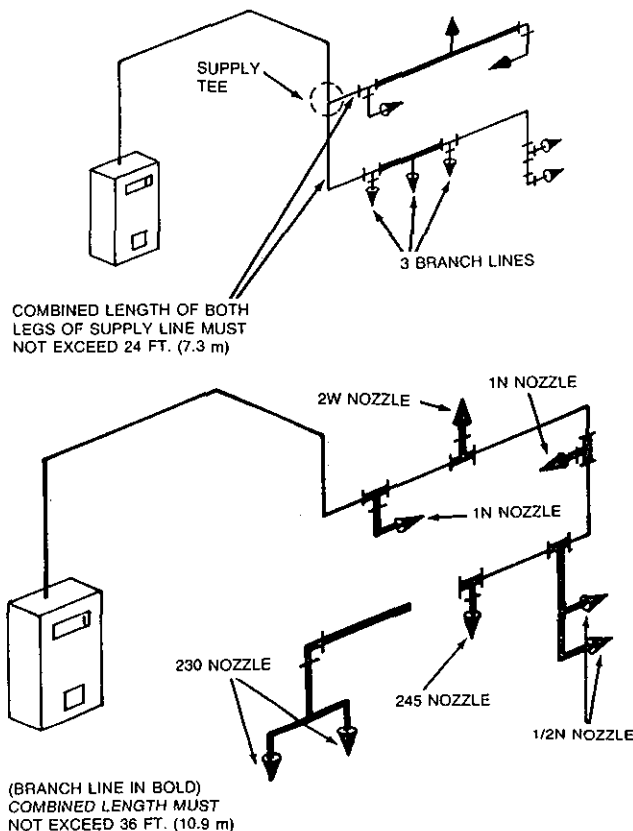

FIGURE 74
1. The maximum length between the start of the first branch line and the start of the last branch line must not exceed 24 ft. (7.3 m). When the supply line is split, the **combined total** of both legs of the supply line (from the start of the first branch line to the start of the last branch line) must not exceed 24 ft. (7.3 m). See Figure 74.
2. The total length of all branch lines must not exceed 36 ft. (10.9 m). See Figure 74.